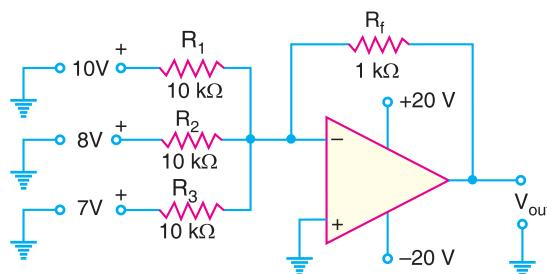

Fig. 25.74
**Example 25.46.** Determine the output voltage for the summing amplifier shown in Fig. 25.74.